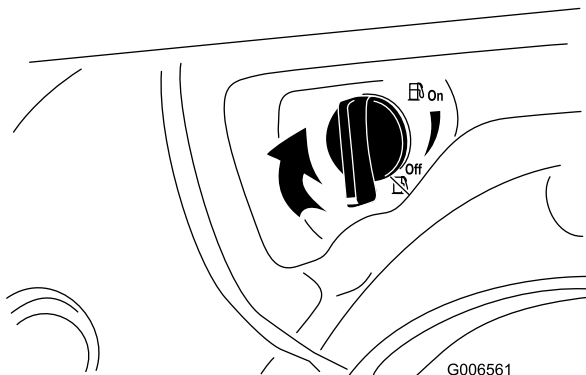

Figure 28
4. Close the fuel shutoff valve by rotating it clockwise (Figure 28).